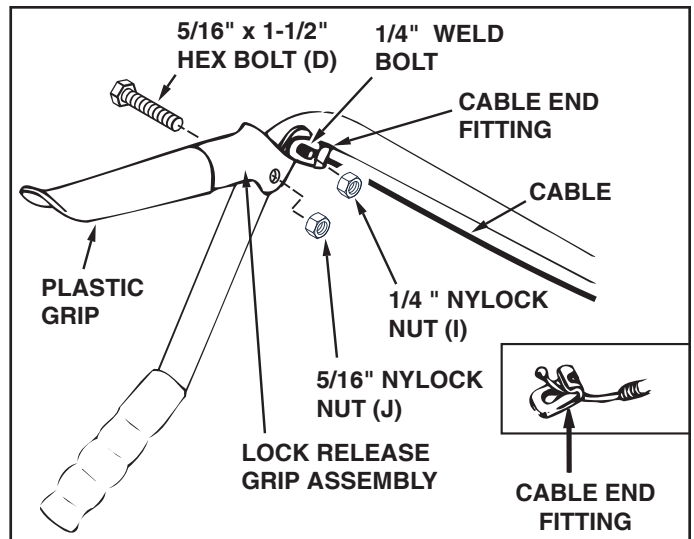

FIGURE 23 (Right Hand Side View)
STEP 23: (SEE FIGURE 23)
- Attach the lock release grip assembly to the lift handle tube using one 5/16" x 1-1/2" hex bolt (D) and one 5/16" nylock nut (J). **Do not overtighten** the nylon lock nut. The grip assembly must pivot freely.
- Assemble the ball end of the cable to a cable end fitting as was done to the other end of the cable. Secure the cable end fitting to the weld bolt on the lock release grip with a 1/4" nylock nut (I). **Do not overtighten** the nylon lock nut. The cable fitting must pivot freely.